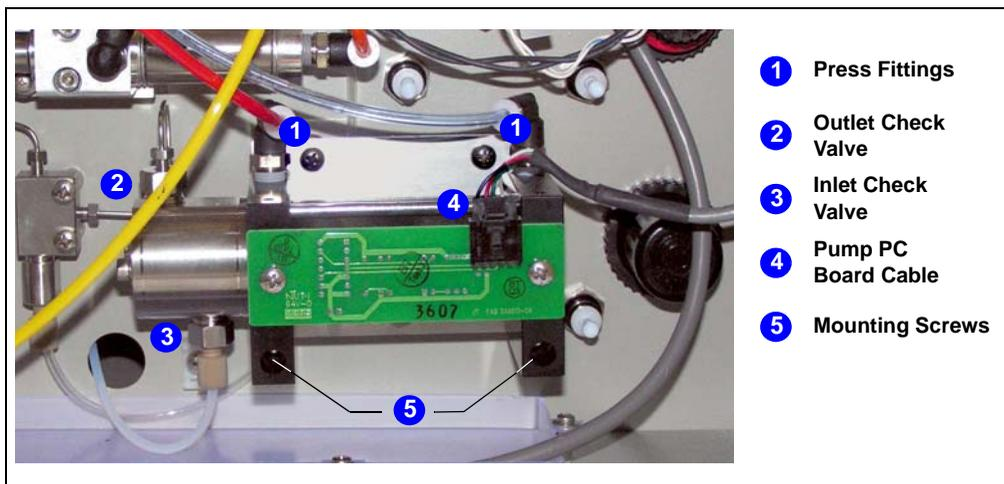

Figure 5-7. Dionex ASE 150 Pump (Behind Right-Side Panel)
1. Follow the instructions in Section 5.4 to disconnect the gas source and remove the right-side panel. The Dionex ASE 150 pump is behind the right-side panel, in the lower right corner (see Figure 5-7).